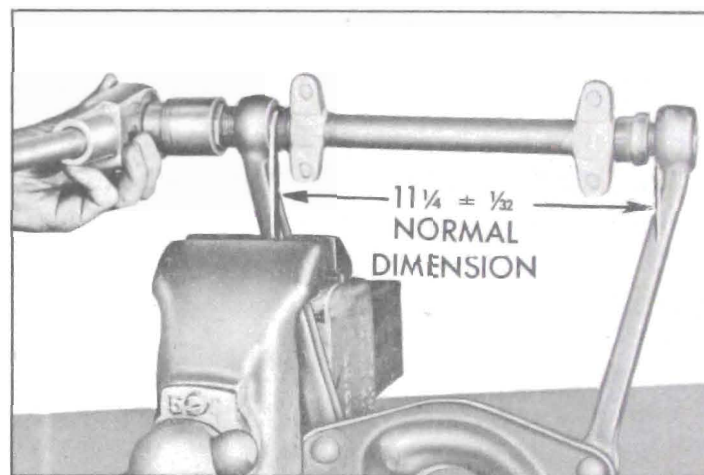

Figure 7-14—Installing First Bushing
3. Check the distance between inner ends of control arm. The normal dimension is  $11\frac{1}{4}$ " plus or minus  $\frac{1}{32}$ ", from inside to inside. See figure 7-14.
7. Start first bushing on shaft and into control arm at the same time. Turn bushing until head is tight against arm and tighten to a minimum of 150 ft. lbs. torque. See figure 7-14.